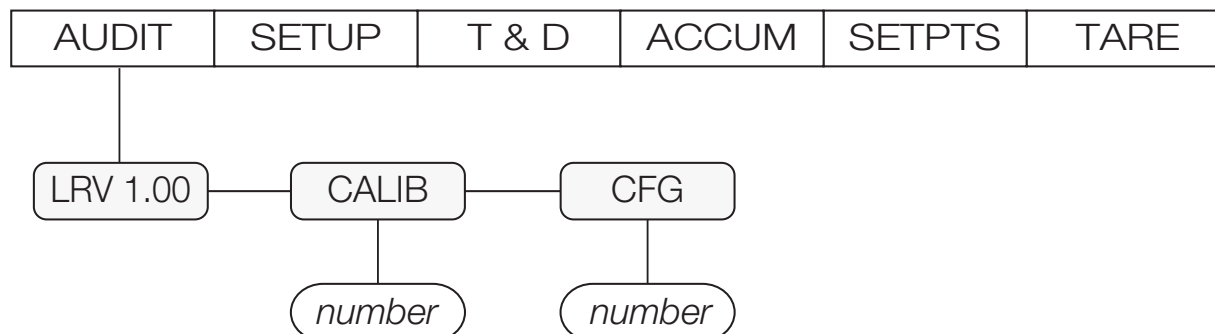

Figure 3-3. Audit Menu Structure
| AUDIT  | Audit Trail   | Displays the legally relevant (LR) firmware version, configuration count and calibration count, see <a href="#">Figure 3-3 on page 37</a>       |